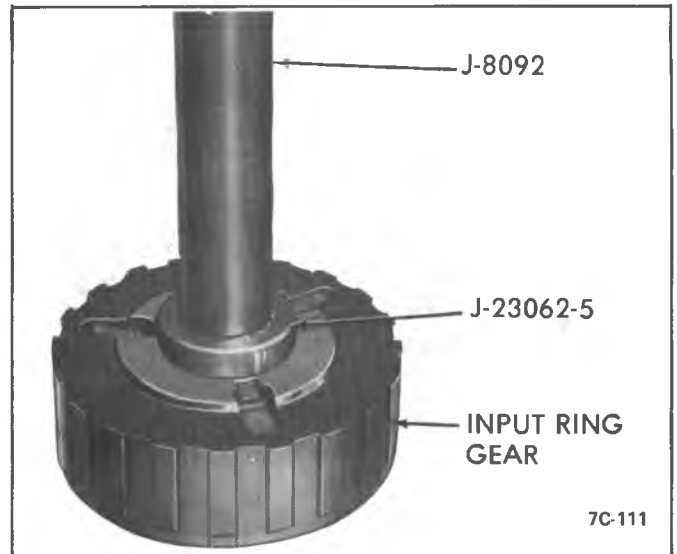

Figure 7A3-172 Reaction Carrier Bushing Removal
a. Thread Tool J-123062-13 on Drive Handle J-8092 and remove bushing. See Figure 7A3-173.